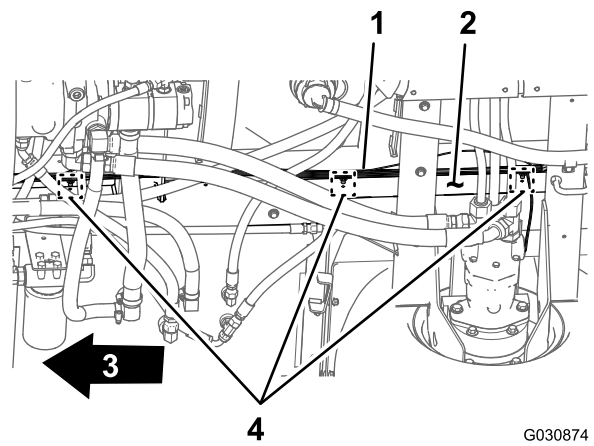

Figure 85
3. Route the 165 cm (65 inch) branch and the 203 cm (80 inch) branch of the electrical harness forward along the right frame tube (Figure 85).
4. Insert the push-in fasteners of the 203 cm (80 inch) branch of the rear wire harness into the holes in the right frame tube (Figure 85) where the push-in fasteners of the old rear harness were removed; refer to step 3 in Disconnecting the Front and Rear Wire Harnesses (page 13).